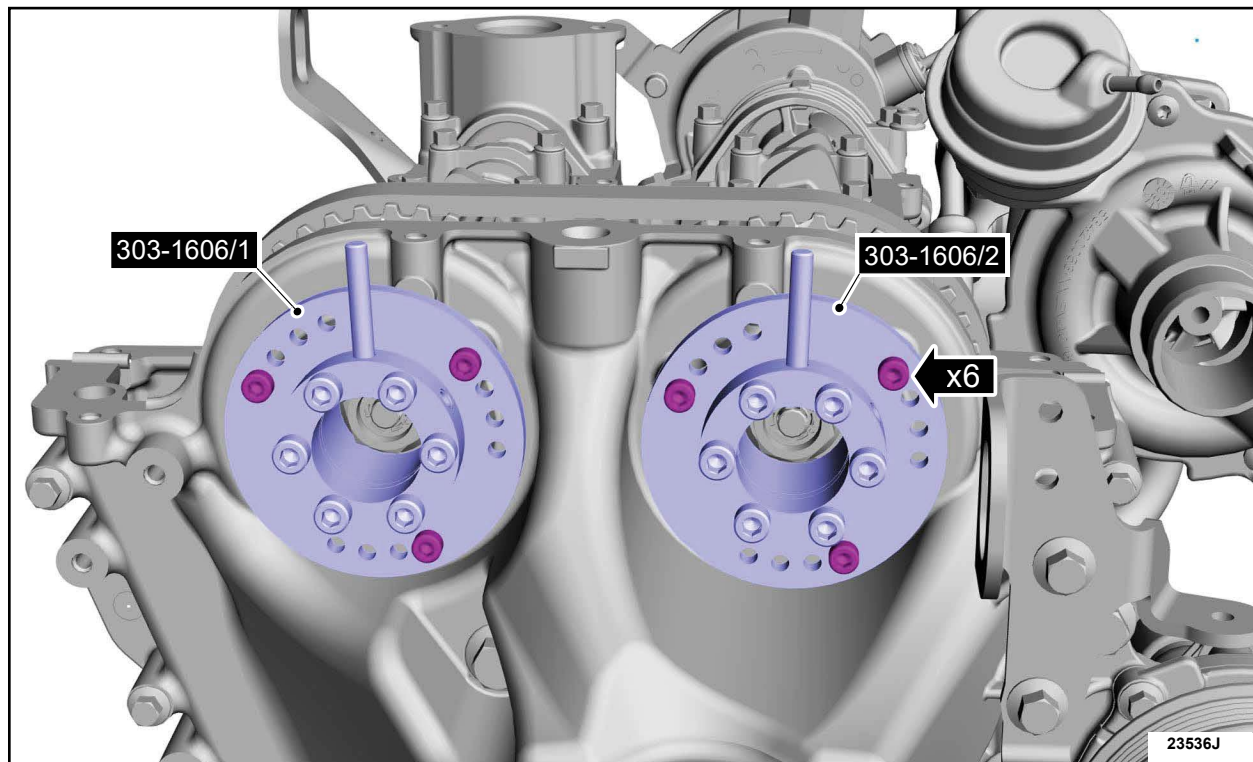

FIGURE 36
43. Install the Variable Camshaft Timing Locking Tool: Special Service Tool 303-1606. See Figure 36.